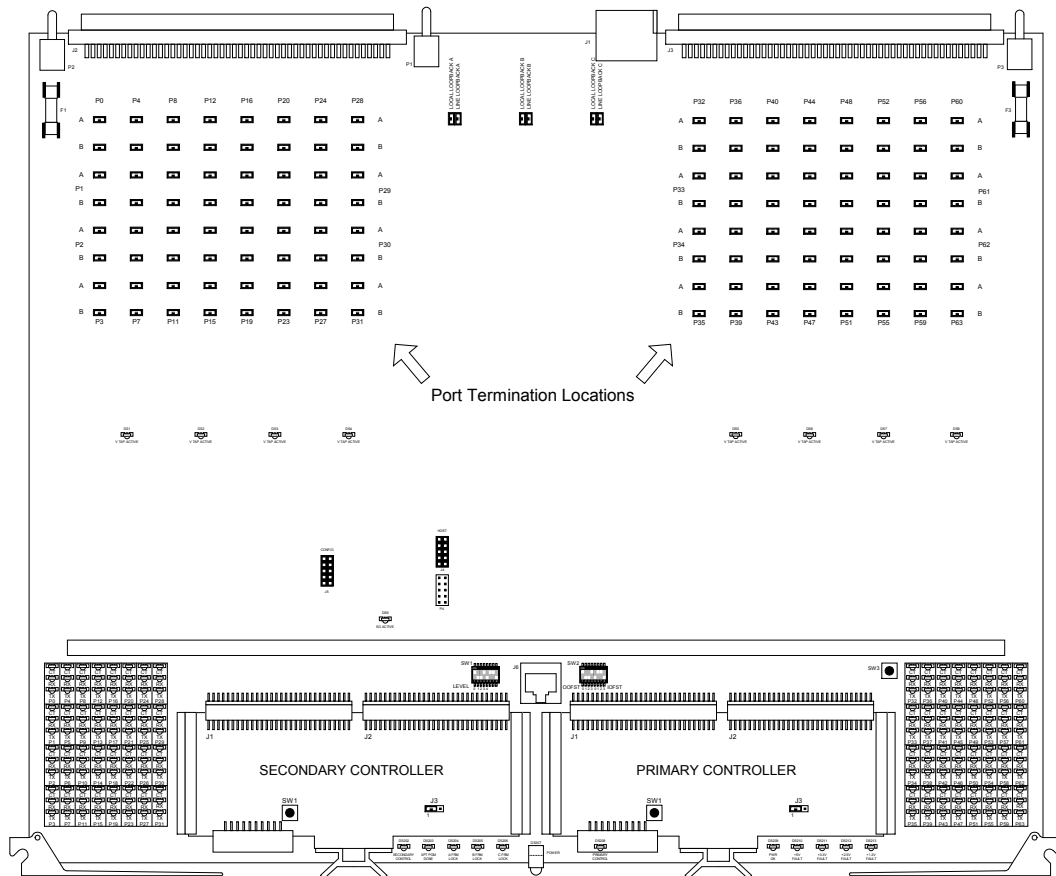

FIGURE 2-14. Main Board Assembly Port Termination Shunt Locations
4. On the Main Board Assembly, locate the port termination shunts. See Figure 2-14.